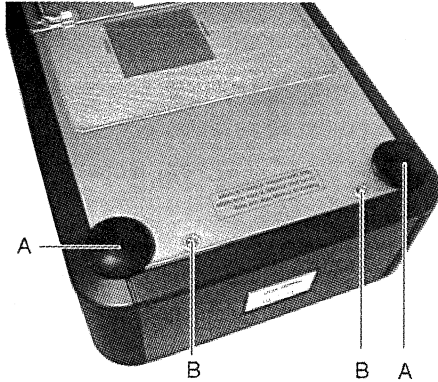

Fig. 4.1
4.1 Remove the bottom cover (fig. 4.1)